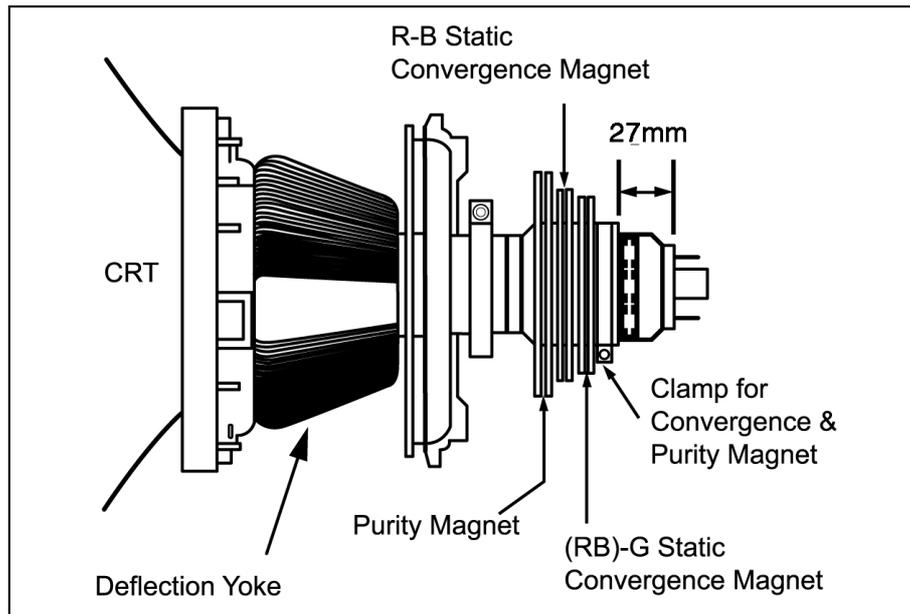

Fig. 11
7. Loosen the clamp screw for the deflection yoke A in Fig. 11 and move the deflection yoke as close to the purity magnet as possible.
11. Tighten the clamp screw A in Fig. 11.
7. Fix the deflection yoke by re-inserting the DY wedges. Refer to Fig. 11 & 12.